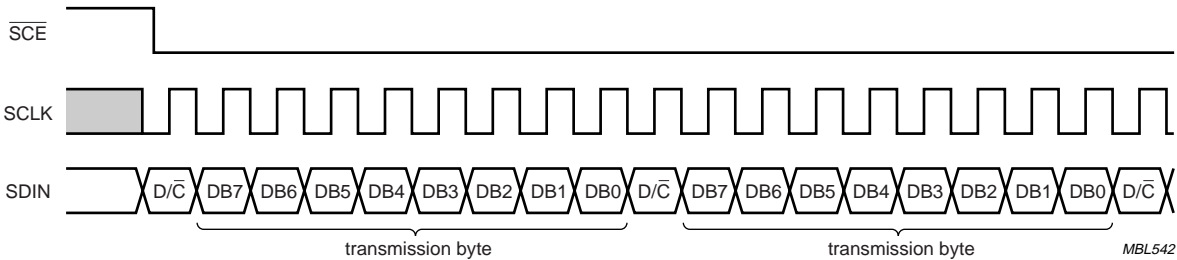

Fig.19 Write mode - transmission of several bytes.
- If \overline{SCE} stays LOW after the last bit of a command/data byte, the serial interface expects the D/\overline{C} bit of the next byte at the next rising edge of SCLK (see Fig.19)